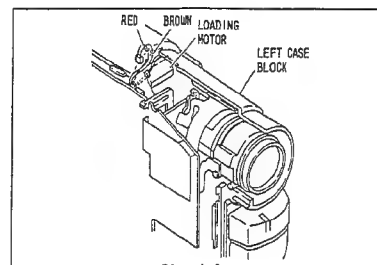

Fig. 1-2
If the electrical circuit is defective, apply a voltage to the connector terminals of the loading motor after the components up to the right case block are removed. The camera/recorder can be set to the eject state. (Fig. 1-2) Be careful of the following when supplying power.
1) When the loading motor is normal (Fig. 1-2)